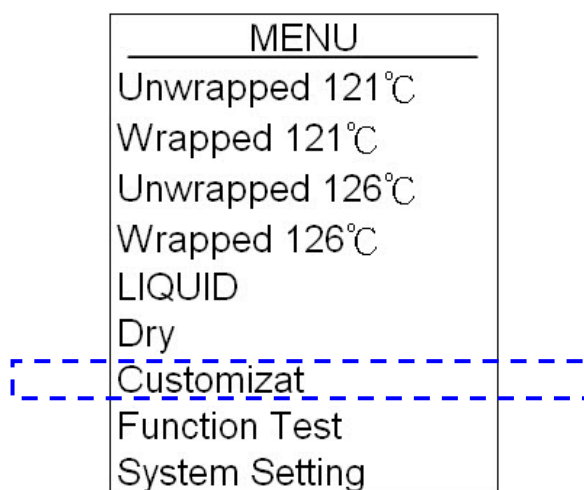

Figure 70
C. Press  or  button to select Customization program (Figure 70), and then press  button to select customization program, as shown in Figure 71.